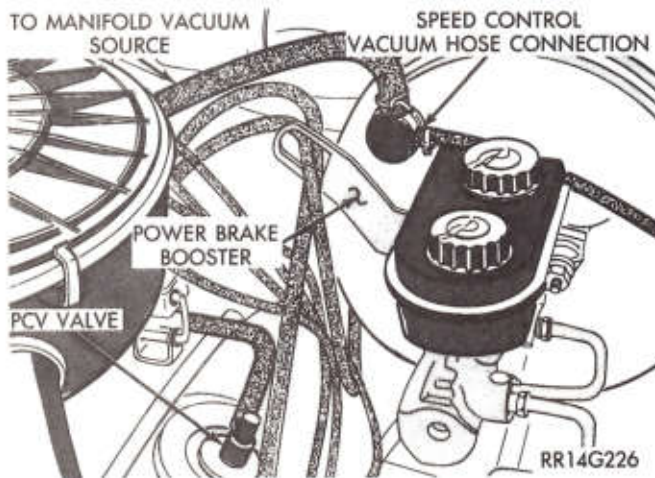
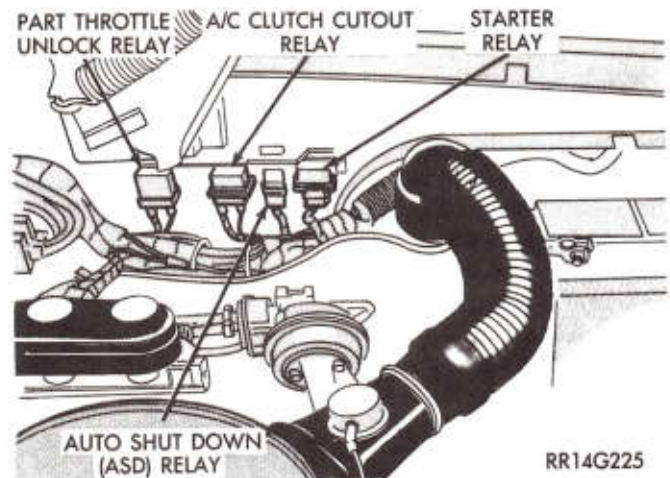

Fig. 20—Power Brake and Speed Control Vacuum Connection
Fig. 21—Engine Compartment Relays
(30) Verify power brake and speed control vacuum connectors are tight (Fig. 20).
(31) Verify that all ignition cables are in correct order and seated into place.
(32) Verify that all electrical connectors are fully inserted into relays (Fig. 21) and that battery connections are clean and tight.